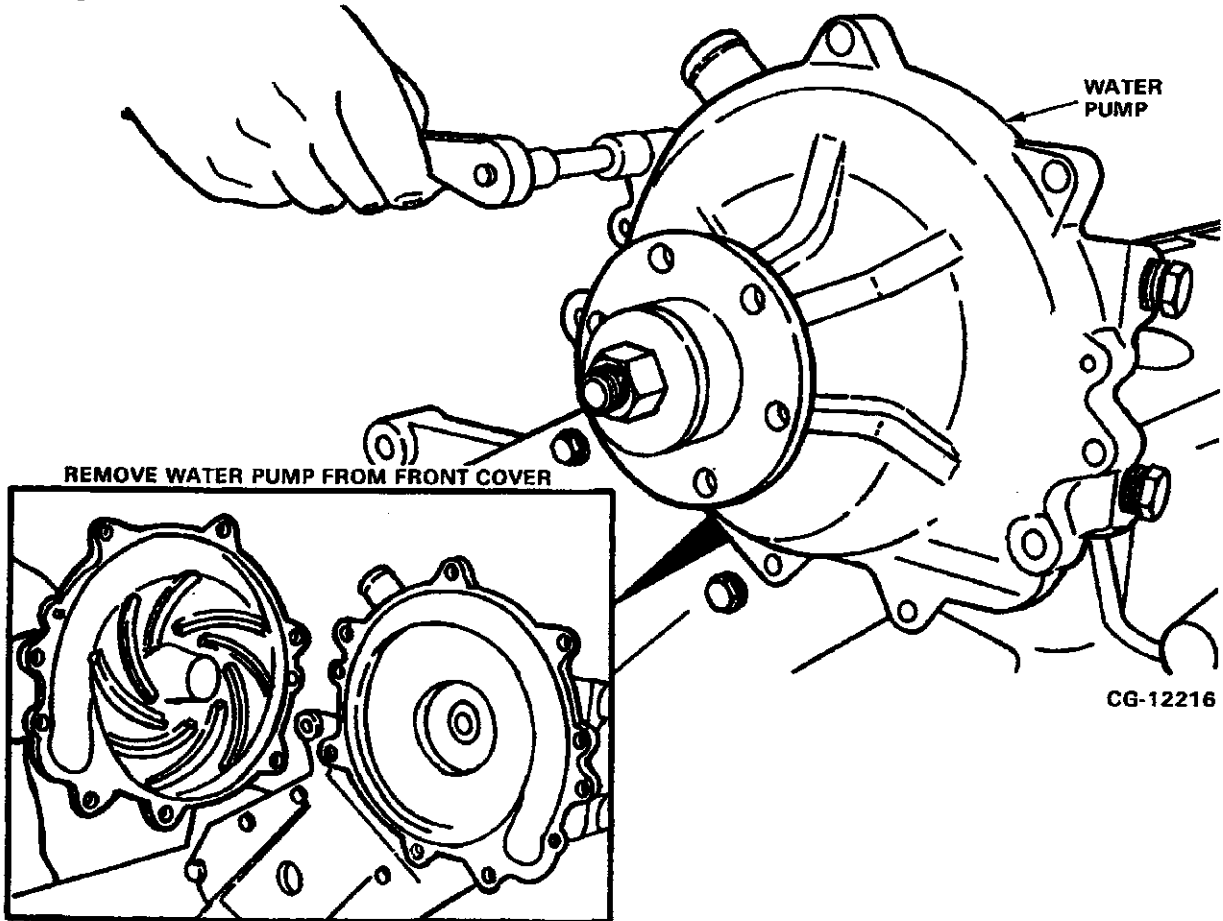

Figure 10.6. Remove Water Pump Mounting Bolts
3. Remove the bolts and washers which secure the water pump to the front cover. Refer to Figure 10.6.